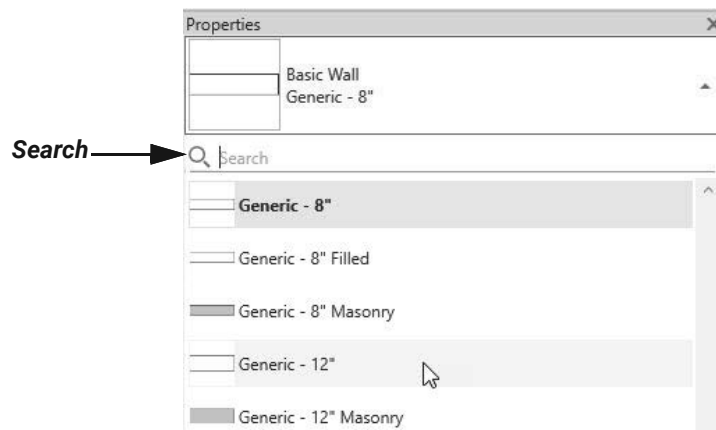

Figure 7–9
3. In Properties, set the *Cross-Section* to **Vertical**, **Slanted**, or **Tapered**, depending on the wall you need to create, as shown in Figure 7–10. Specify the properties and type properties as needed. If this is not set at the beginning of drawing a wall, the last cross-section used will be the default.